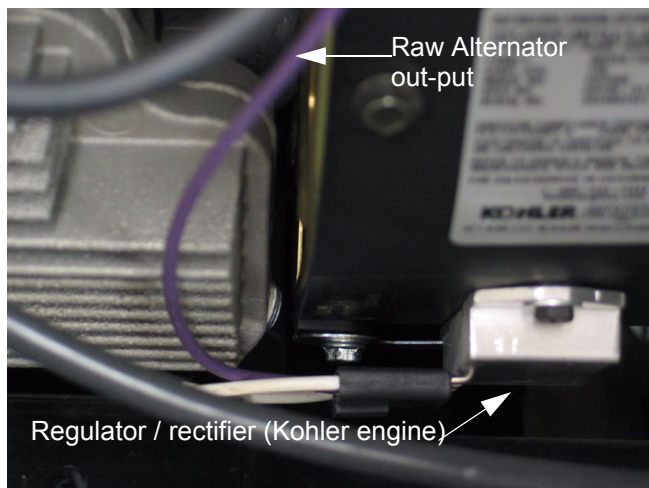

Figure 1.12
- 1.12. Systems vary slightly between engine manufacturers, but principles of operation are comparable. See Figure 1.12.